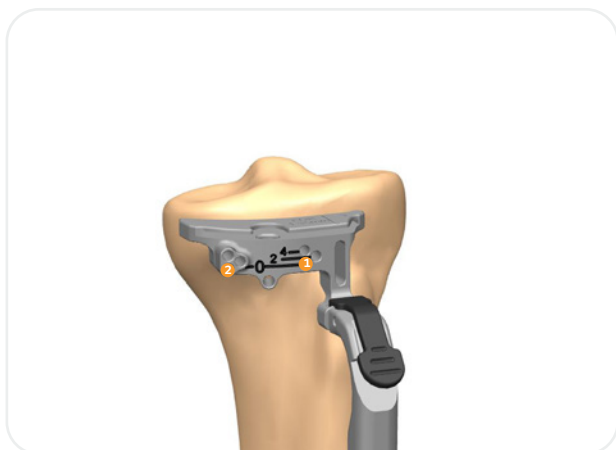

Figure 83
5. With the Adjustable Tibia Stylus set to the desired resection level on the lateral side, pin the cutting block on the lateral side by using a non-headed 65mm pin through the hole marked '0.' (**Figure 83**).